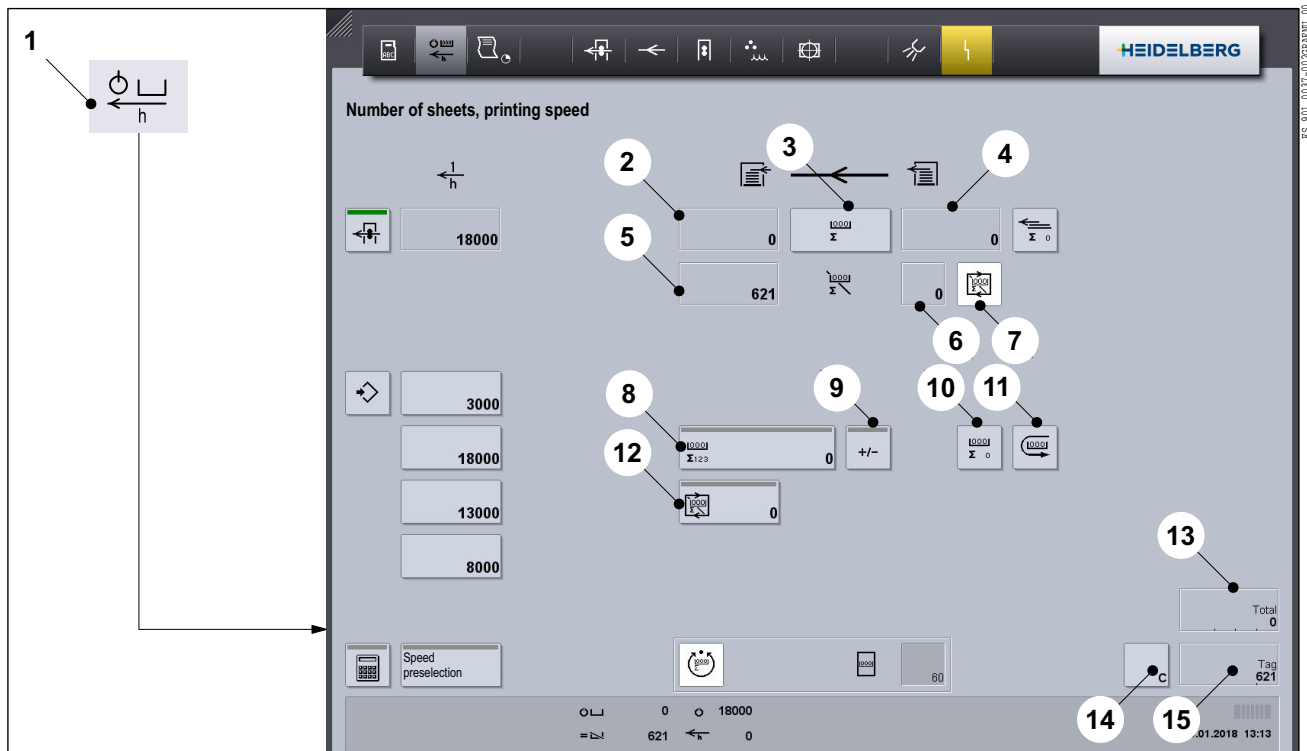

Fig. 1 Number of sheets, printing speed menu
1. Press the *Number of sheets, printing speed* button (Fig. 1/1) in the headline. The **Number of sheets, printing speed** menu appears.
- Job counter (Fig. 1/2)
- The *Job counter* button (Fig. 1/3)
- Residual number of impressions counter (Fig. 1/4)
- Waste-sheet counter (Fig. 1/5)
- The *Makeready interval for the residual number of impressions* button (Fig. 1/6)
- The *Makeready interval on/off* button (Fig. 1/7)
- The *Desired number of sheets* button (Fig. 1/8)
- The *+/-* button (Fig. 1/9)
- The *Job counter zero* button (Fig. 1/10)
Resets the job counter (Fig. 1/2) to 0.
- The *Repeat desired number of sheets* button (Fig. 1/11)
- The *Enter makeready interval* button (Fig. 1/12)
- Total sheet counter (Fig. 1/13)
- The *Day sheet counter zero* button (Fig. 1/14)
Resets the day sheet counter (Fig. 1/15) to 0.
- Day sheet counter (Fig. 1/15)